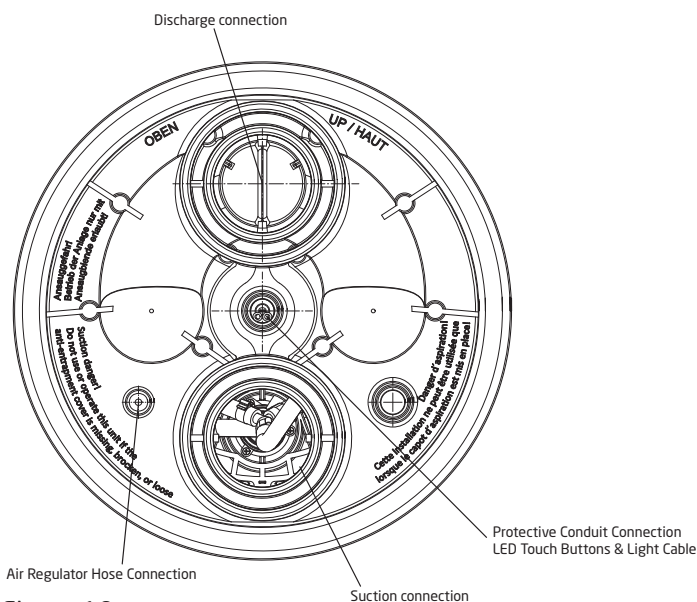

Figure 10
### 2. Install the protective conduit (refer to Figure 10 on page 14 & Figure 14 on page 16):
### 3. Install the air regulator hose (refer to Figure 10 on page 14 & Figure 14 on page 16):
**CAUTION:** Locate discharge connector directly **ABOVE** the suction connection. Discharge and suction connectors must be exactly vertical or the stainless steel handles will not align properly. (See Figure 10)